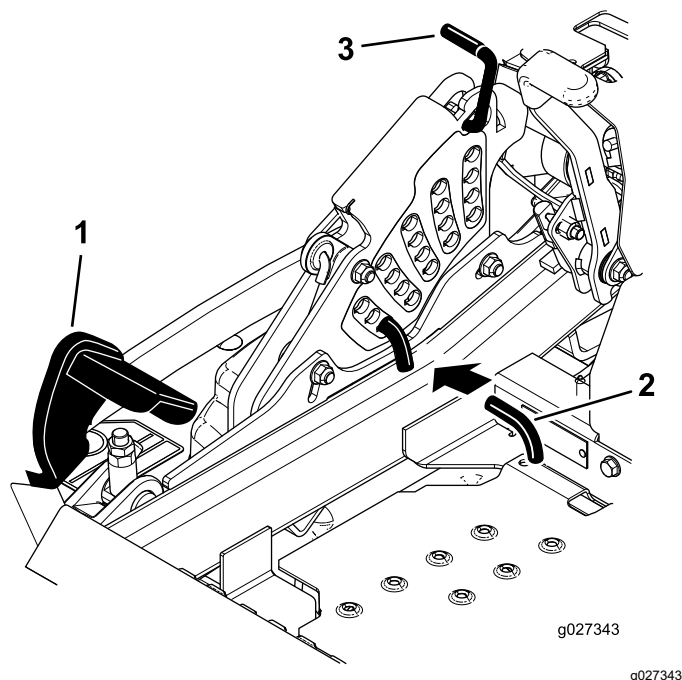

Figure 114
5. Push the deck-lift pedal all the way forward and the deck latches at the 14 cm (5-1/2 inch) transport position (Figure 114).